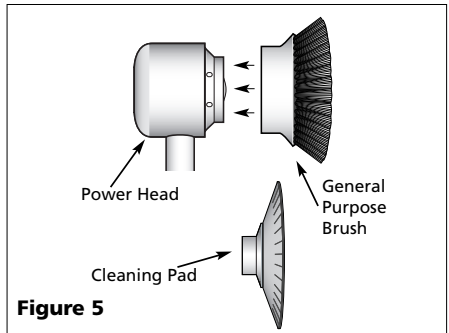

Figure 5
3. To use Cleaning Pad or General Purpose Brush (Figure 5), press either attachment firmly onto Power Head.